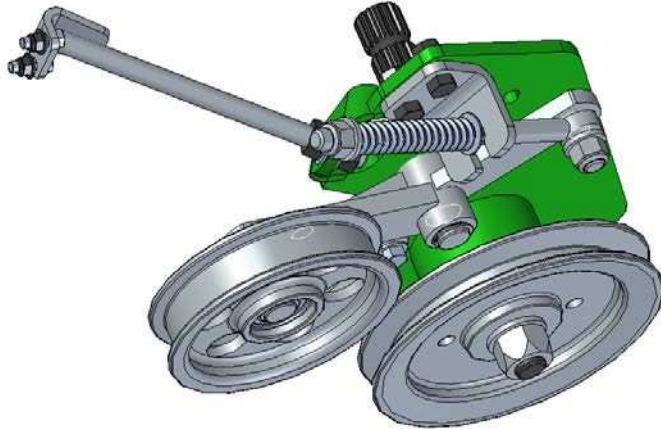

Figure 22
3.3 Fitting the mower knife belt drive. Figure 22
- Fit the belt drive with sprocket (from the CERIO gearing) instead of the bevel gearing removed Figure 22